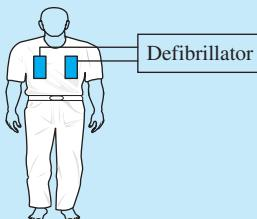
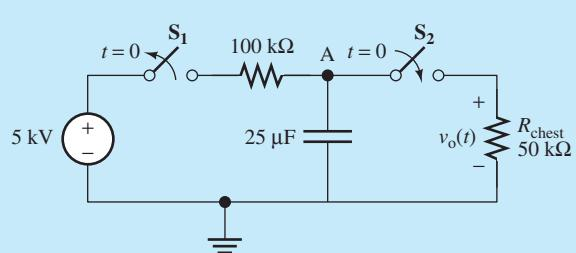

FIGURE 5.22 Model for Example 5.7.
FIGURE 5.23 Circuit model for Example 5.7.
A defibrillator contains a large capacitor that is charged to a high voltage. This voltage is discharged when the pads are pressed on the patient’s chest. The scenario shown in Figure 5.22 can be modeled as that shown in Figure 5.23. Note that before $t = 0$, S_1 and S_2 have been closed and opened, respectively, for a long time period. Usually, defibrillators have an inductor in series with the patient, but it has been omitted to simplify this problem.
- Applying KCL to the parallel capacitor–resistor (i.e., Node A in Figure 5.23) for $t > 0$: